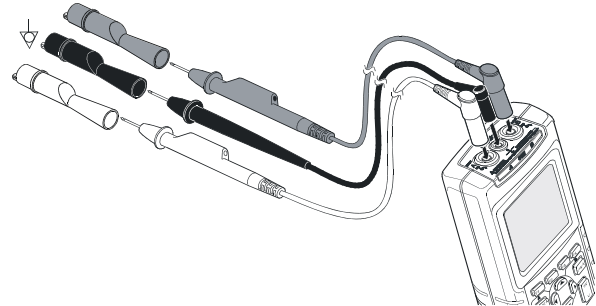

Figure 3-3. Grounding with Unshielded Ground Lead
- Use the unshielded black ground lead to COM (common) for Ohm ( $\Omega$ ), Continuity, Diode, and Capacitance measurements. (See Figure 3-3.)